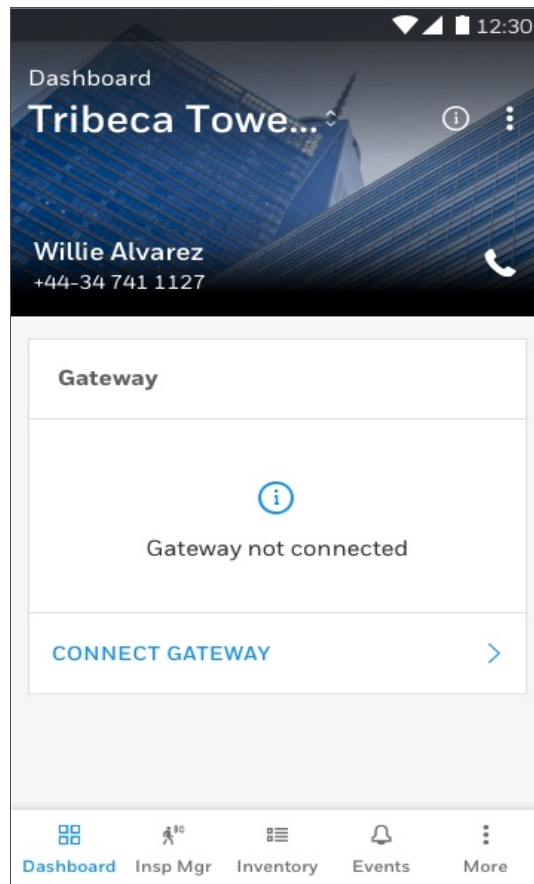

Figure 5.2: Building Details Page
11. To commission the gateway, tap on **CONNECT GATEWAY** and follow the on-screen instructions (see Figure 5.2).